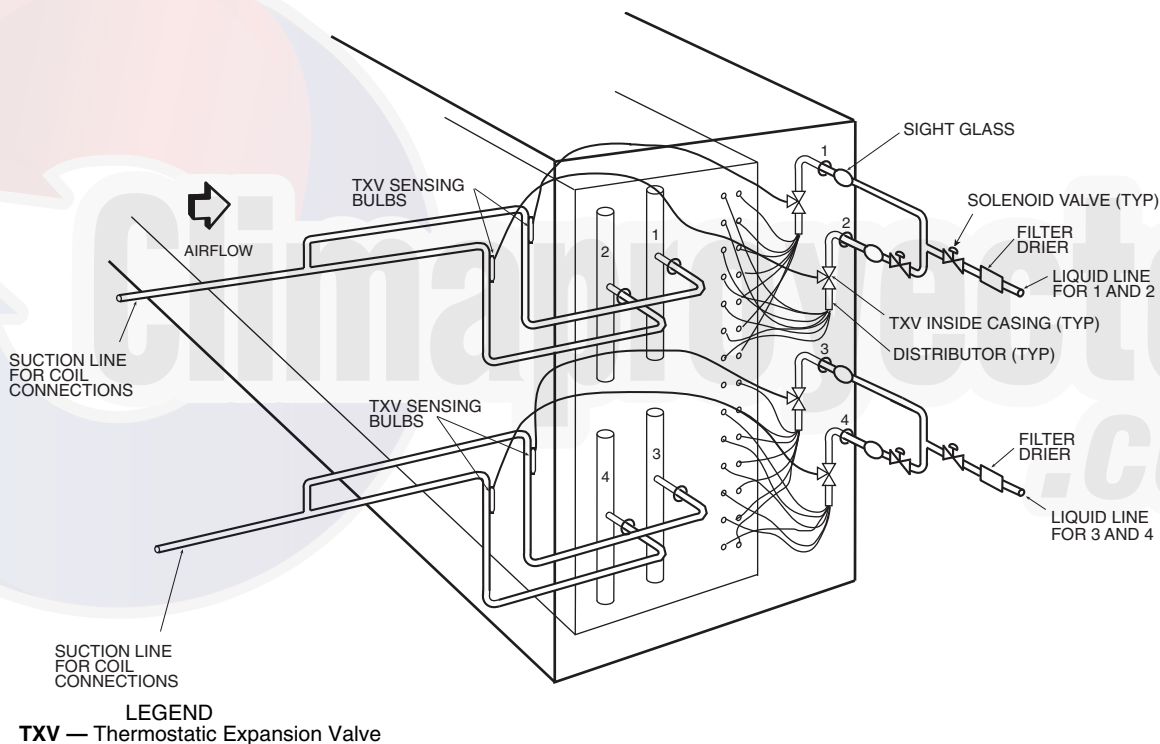

Fig. 102 — Face-Split Coil Manifolding (Typical)
Manifolding for 2-Face Splits — Refer to Fig. 102 and externally manifold as follows:
Manifolding for 2-Face Splits — Refer to Fig. 102 for coils with less than 34 tubes in face. Externally manifold as follows:
1. Coils with less than 34 tubes: Connect the 4 expansion valves to the 4 distributors on each coil and connect the 4 suction lines to the 15-diameter-long risers as outlined in previous piping instructions. Refer to Fig. 102.